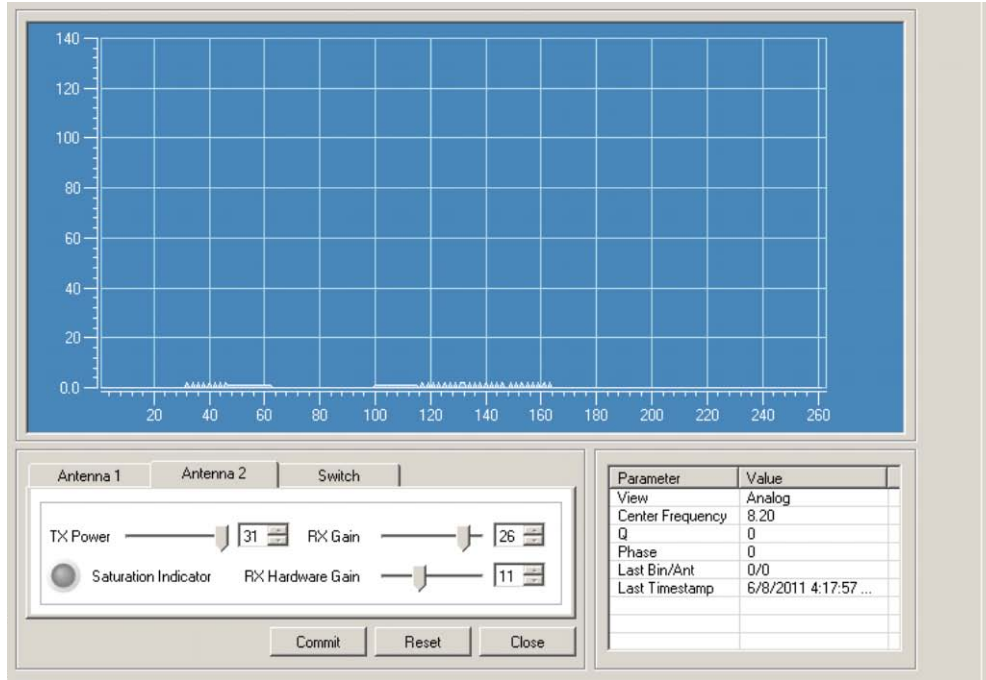

Figure 6.5 Noise on Filter View D – Graph After RX Gain Tuning
4. Adjust RX gain (software gain) until the Noise begins to peak into the Analog View D. Figure 6.5 below shows a properly tuned system.